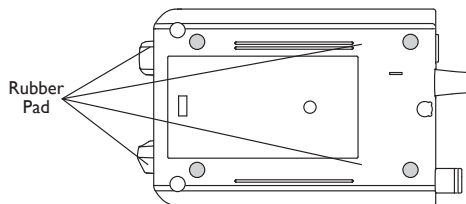

Fig.5
- 2 Fit the Rubber Pad to the appropriate place. (Fig.5)